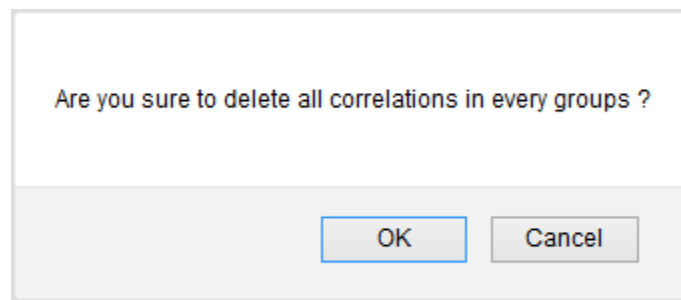

Figure 2.60
2. Click **DELETE ALL CORRELATIONS** button. An alert box appears. (Figure 2.60)
3. Click **OK** to remove or click **Cancel**. (Figure 2.60)